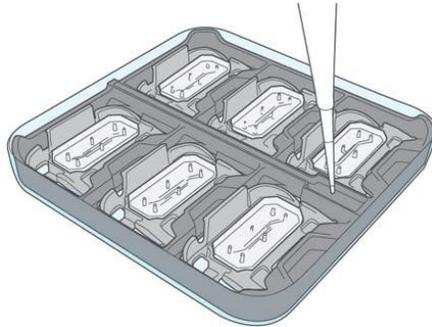

Figure 4. Fill central reservoir of Chip Cradle with 0.75 mL of DPBS
7. To prevent evaporation during incubation, fill central reservoir with 0.75 mL of DPBS (See Figure 4) and place lid onto 120 mm square dish and incubate overnight at 37°C and 5% CO₂.